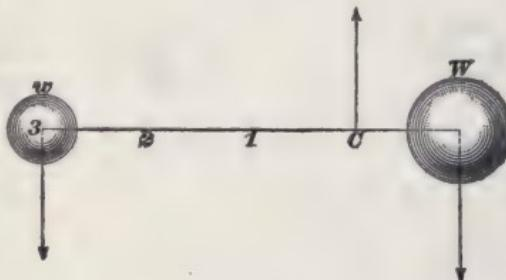

FIG. 9.
If  $w$  and  $W$ , Fig. 9, are two bodies of known weight, their center of gravity will be at  $C$ . This point  $C$  may be readily determined as follows:
**EXAMPLE.**—In Fig. 9,  $w = 10$  pounds,  $W = 80$  pounds, and the distance between their centers of gravity is 36 inches; where is the center of gravity of both bodies situated?